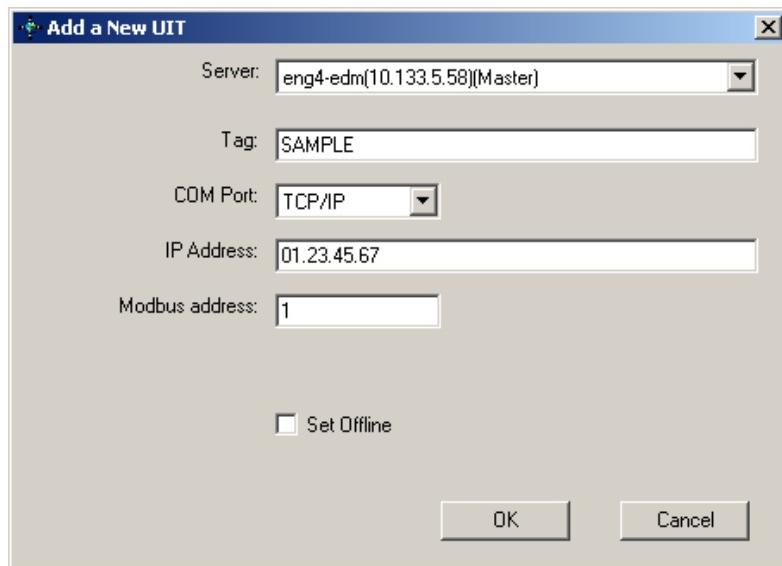

Figure 3-18 Add a New UIT
1. From the Device drop-down menu, select NGC-UIT, then Add UIT. The window (as shown in Figure 3-18 Figure 3-18 Add a New UIT) allows you to enter the information for the UIT you wish to install.